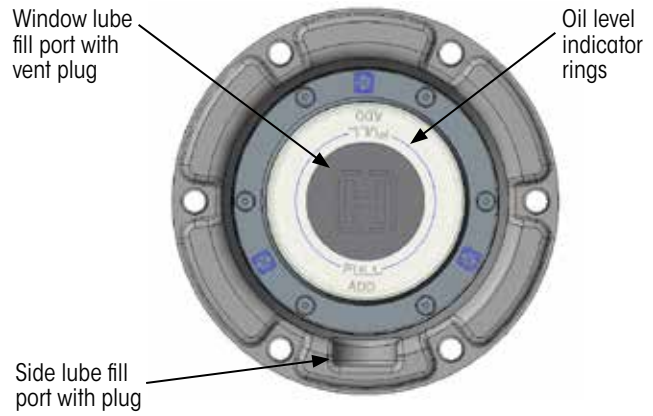
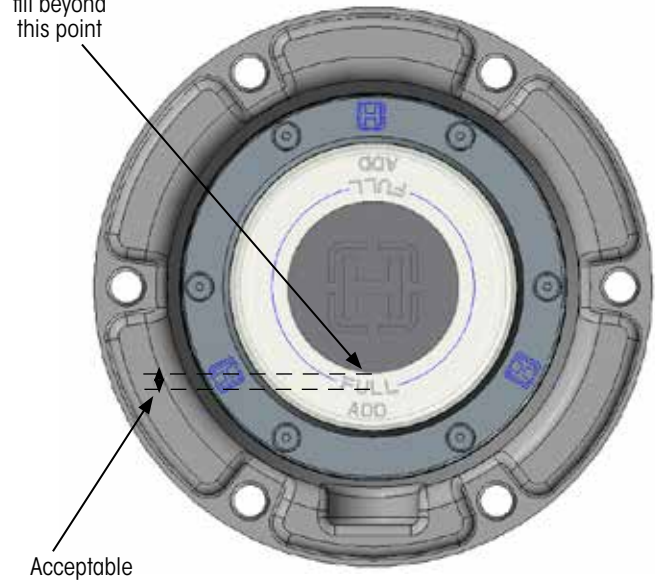

Figure 20: Sample oil hubcap with oil level indicator rings
Figure 21: Fill levels for oil lubricant
NOTE: Not all hubs have a fill port. In this case, oil can only be added through the hubcap side or window lube fill port (Figure 20).
- Fill** wheel-end with oil until the oil level is above the "ADD" and to the "FULL" indicator ring of the hubcap window shown in Figure 20 and Figure 21.
IMPORTANT: The oil level should be maintained to the hubcap full indicator ring (Figure 21). Oil can be added to exceed the FULL line, but must remain below the spindle center. Oil levels above this risk contamination and loss of oil through the axle plus a reduction in lubricating performance.